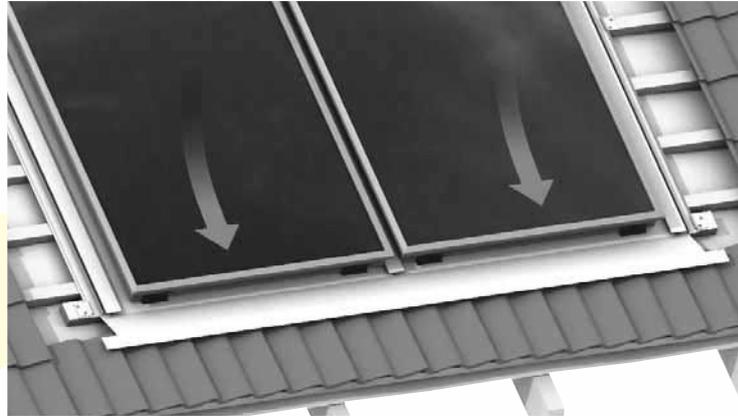

Figure 69: Installation of the Collectors on to Bracket
2. Fit two anchor blocks (05) into the profile at the bottom and top of each collector. Lift first collector and position on two mounting brackets. See Figure 69. Adjust position of anchor blocks to align with hole in each mounting brackets. Repeat for second collector, and so on for further collectors.